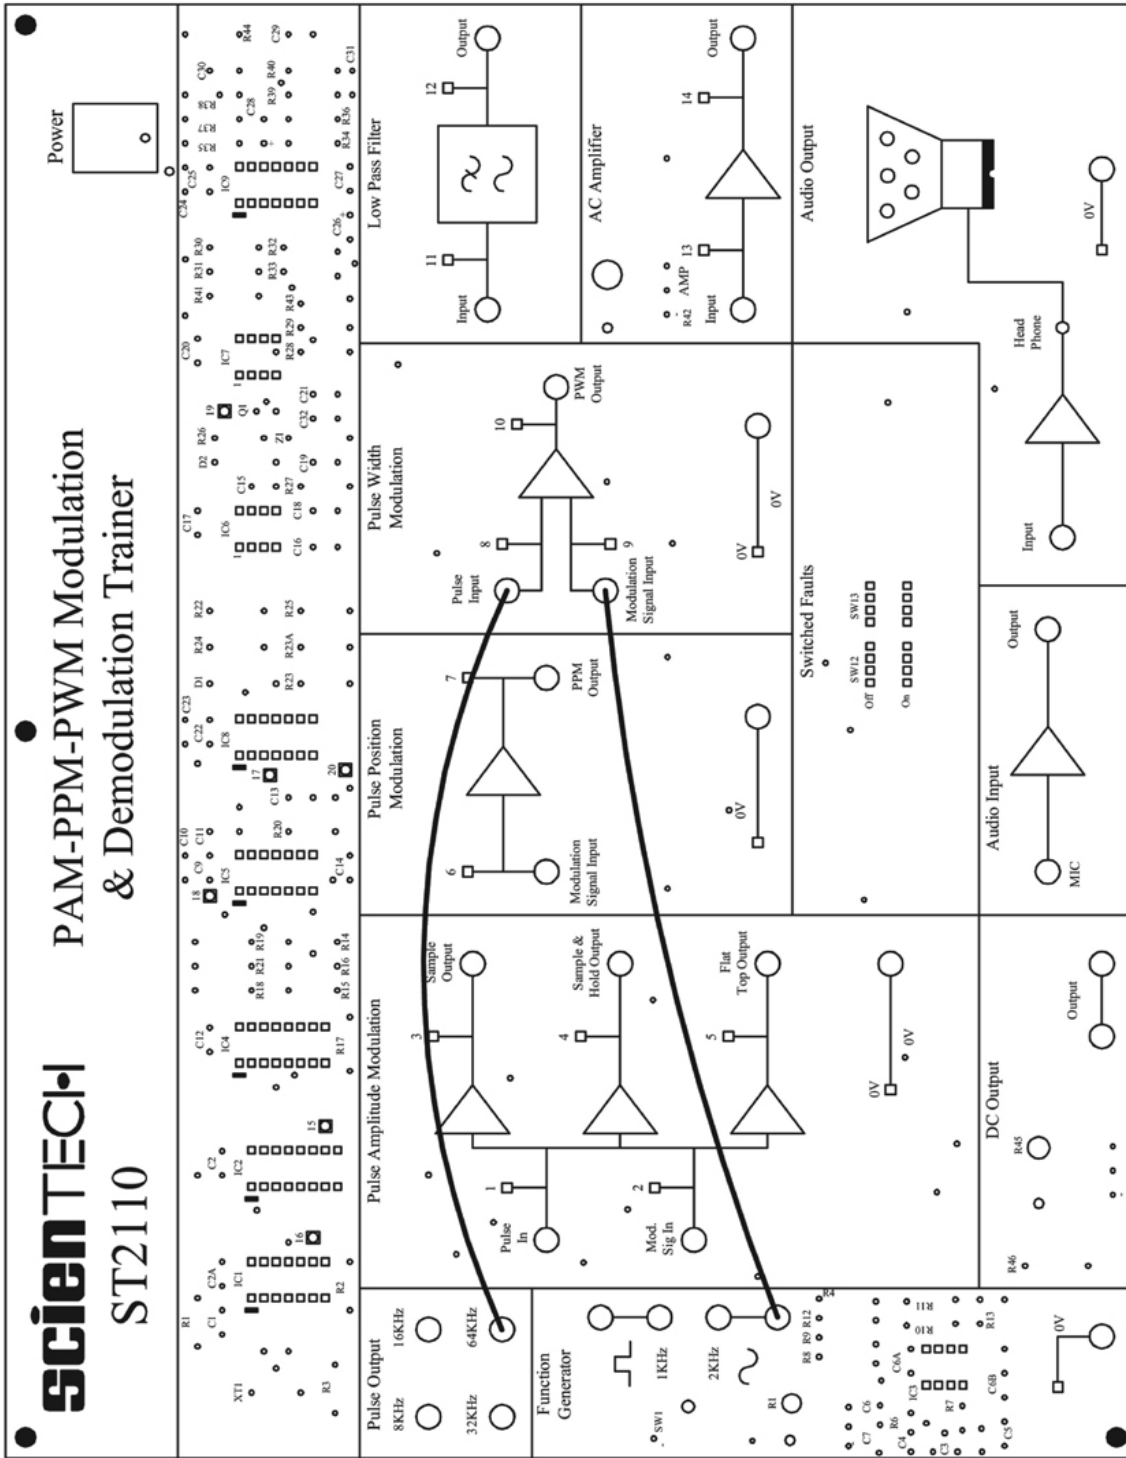

Figure 1
1. Connect the circuit as shown in Figure 1 and also described below for clarity.